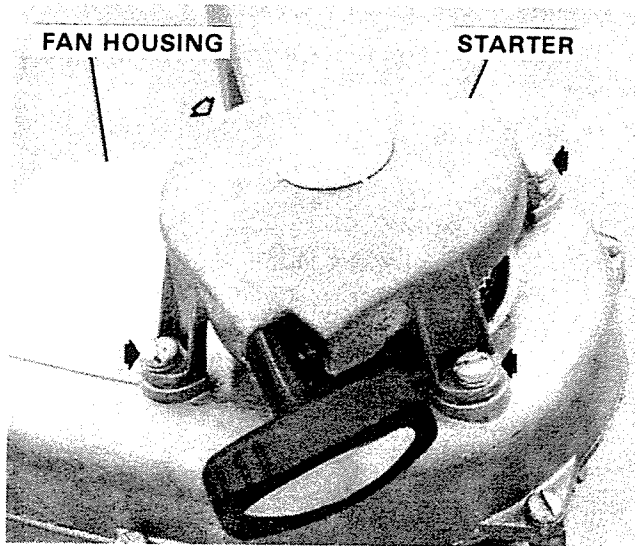

Figure 3. Removing Starter.
1. Remove starter from fan housing by removing four (4) screws and lockwashers. Figure 3.